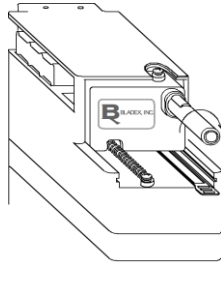

Fig. 5 Attaching a new blade
**Step 2** – To attach a fresh blade, push the sled forward and turn clockwise as shown in Fig.5.